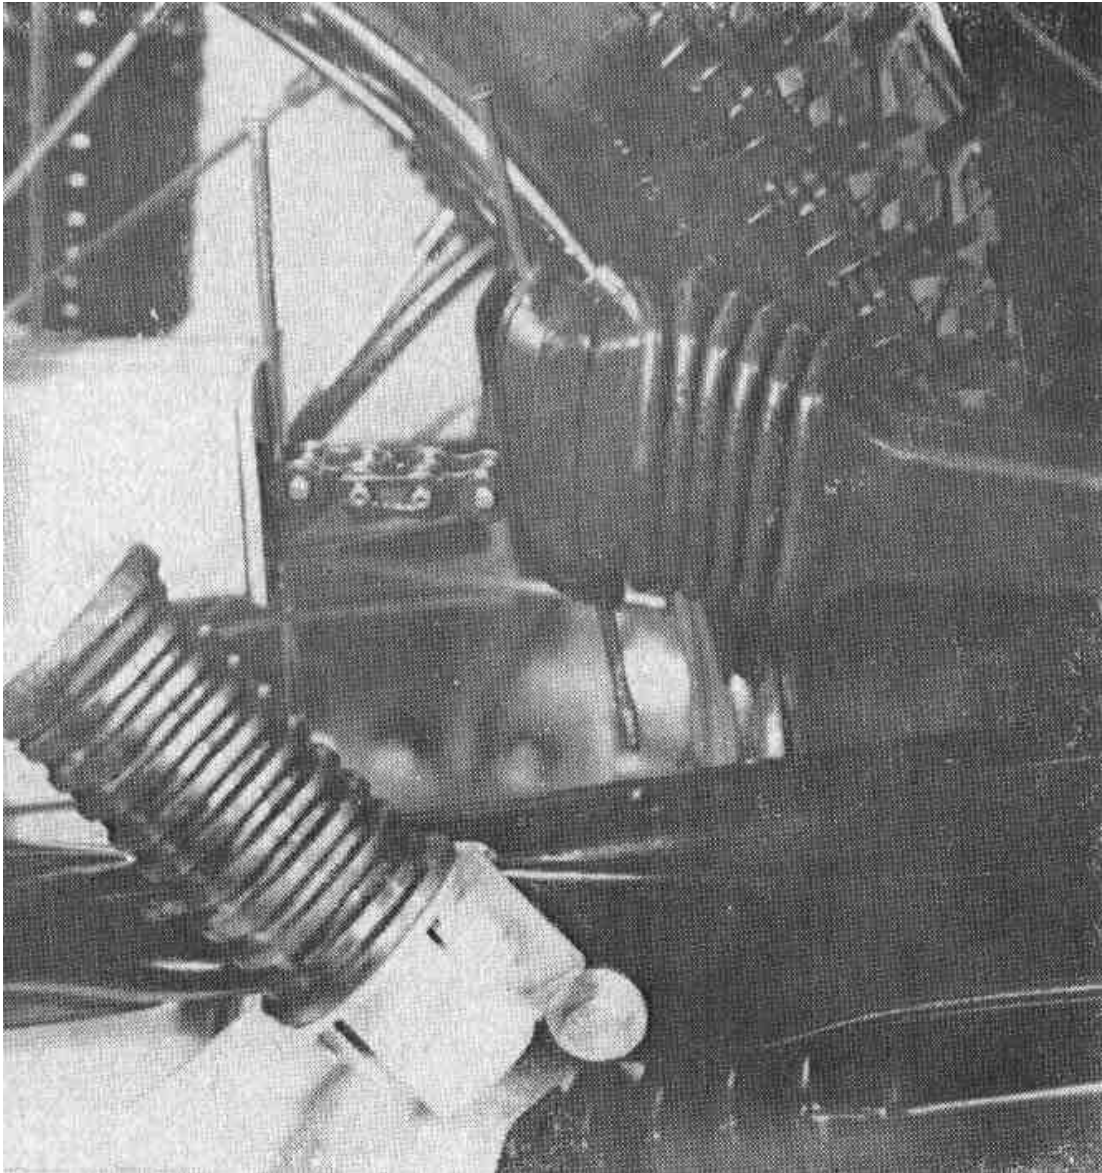

Fig. 35 – Replacement of secondary chain
- c) Rotate the rear wheel till the chain end link appears in the place of the removed sleeve. To prevent the left-hand end of the chain from falling into the chaincase after the disconnection of the end link, insert a thin screwdriver or rod beforehand between the chain rollers near the end link. Depress the rubber sleeve (bottom) and secure the right-hand end of the chain in the same manner (Fig. 35).